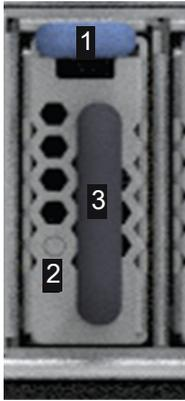

Figure 97. Removing the boot drive
7. Hold the boot drive handle (3) and press down on the release latch (1) towards the handle and pull to remove the boot drive. In Figure 97 on page 158, the faulty LED (2) location on the boot drive is shown.